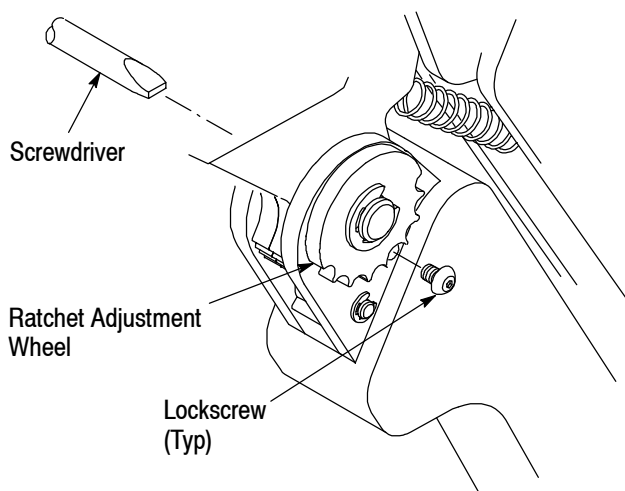

Figure 5
**6. RATCHET (Crimp Height) ADJUSTMENT** (Figure 5)